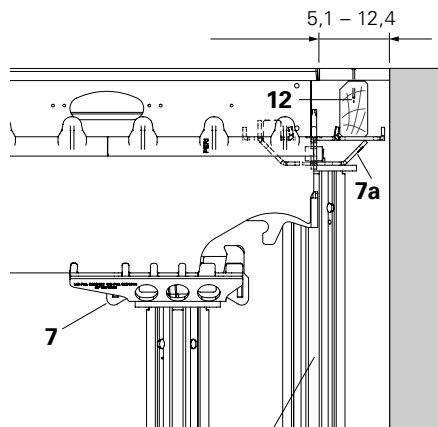

Fig. A5.24
1. Place Main Beam SLT (2) on inset prop with Combihead SCK (7) or Prophead SSK (6).
3. Install Filler Timber SPH (12) or Edge Beam SRT (9).
4. Position the formlining and secure with nails. (Fig. A5.24 + A5.25)